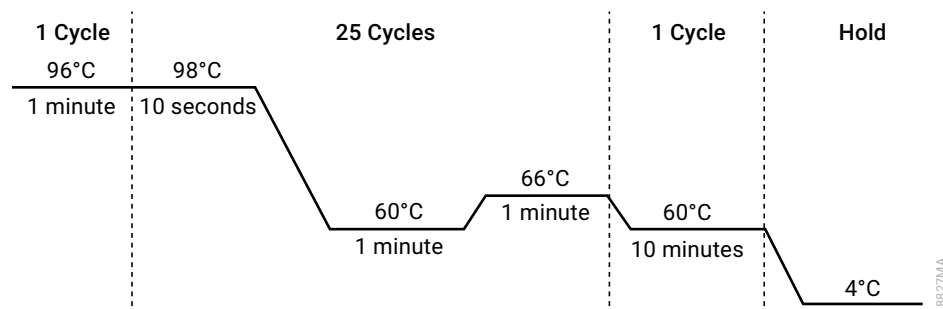

Figure 38. Thermal cycling protocol for the Mastercycler® X50s PCR System.
2. Select and run the recommended protocol provided below and in Figure 38. The total cycling time is approximately 80 minutes.